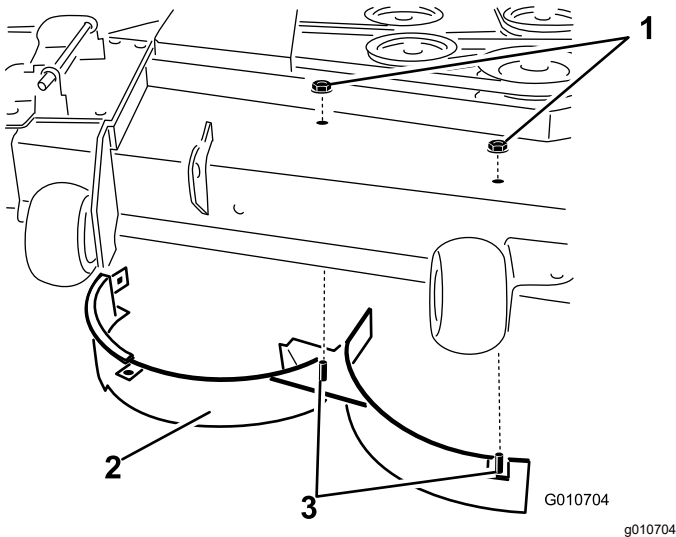

Figure 15
- Remove the 2 locknuts (5/16 inch) to securing the welded posts of the right baffle to the top of the mower deck at the center and right of center positions (Figure 15).